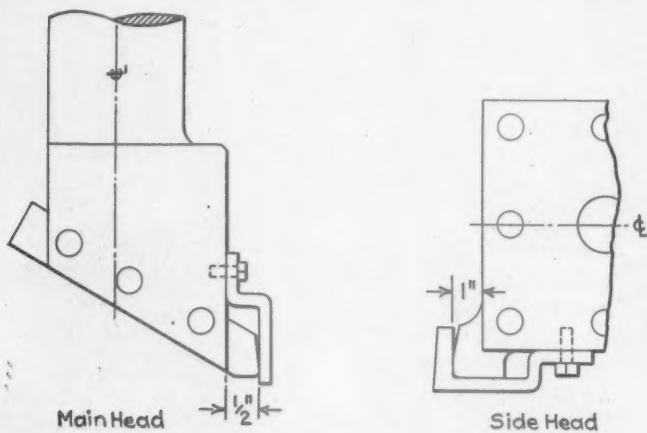
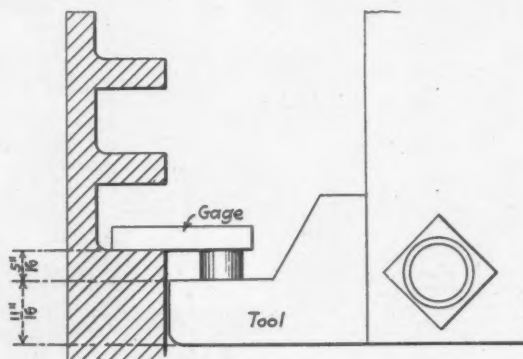
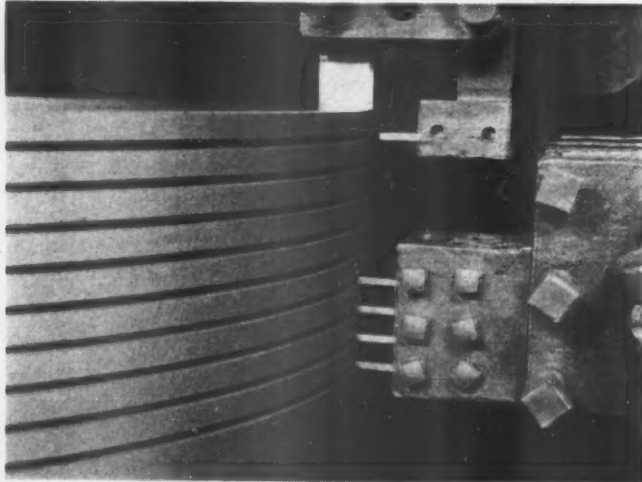

Fig. 4—Gages used for setting boring and turning tools
Fig. 6—Gage for setting the grooving tool for the L-rings
Fig. 7—The gang tool cutting grooves in the tub—The parting tool is shown at the top ready to be used, while the facing tool is seen in action
The gages shown in Fig. 4 are used to obtain correct inside and outside diameter of the tubs without the use of pin or snap gages. These gages are placed in the
is removed for grinding it is relocated in the holder by using the gage shown in Fig. 4.
by lining up the bottom of the upper one of the four tools in the holder with the finished top surface of the tub. The remaining three tools are then fed into the work to cut three grooves. For the next four grooves the gang tool is set by the use of a gage similar to that shown in Fig. 6 by means of which the location of the top one of the four tools is established. This procedure is followed after each set of grooves is completed until all of the grooves for the 22 rings have been cut. After the first seven grooves have been cut and while the remainder of the grooves are being cut, the combination tool in the main head in Fig 7 and at Y in Fig. 3 (C) is brought into use. This tool faces the top and inner face of the ring and also cuts a fillet on the inner edge of the ring. The parting tool of the combination is then fed into the groove and cuts off one ring.
Fig. 4. The feed on the boring and turning operation is .068 in. and the cutting speed 100 ft. per min. After the tub has been bored and turned the next operation is to cut the grooves for all of the 15 rings. The groove for the first ring is cut, with the tool shown in Fig. 2 (A), $\frac{1}{2}$ in. wide and $\frac{3}{4}$ in. deep, and the 14 successive grooves are cut in the tub $1\frac{1}{8}$ in. wide and $\frac{3}{4}$ in. deep. After the first groove has been cut at the top of the tub the gage shown in Fig. 6 is used to establish the position of the grooving tool for the next cut. This gage consists of a short bar with a button exactly $\frac{5}{16}$ in. (.3125) in height on the bar. The bar is laid on the bottom surface of the last groove cut and the tool in the side head tool post is run up until it touches the button on the gage.